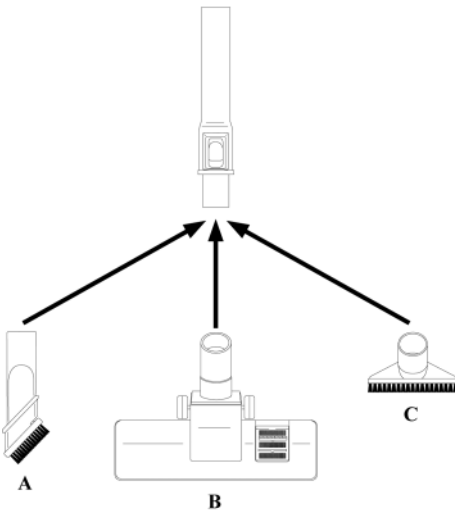

FIGURE 7
3) Attach Floor Brush (FIGURE 7-A), Crevice Tool (FIGURE 7-B), or Upholstery Tool (FIGURE 7-C) onto end of Telescopic Extension Tube as shown (FIGURE 7). Firmly press attachment onto Tube until it is snug and secure.